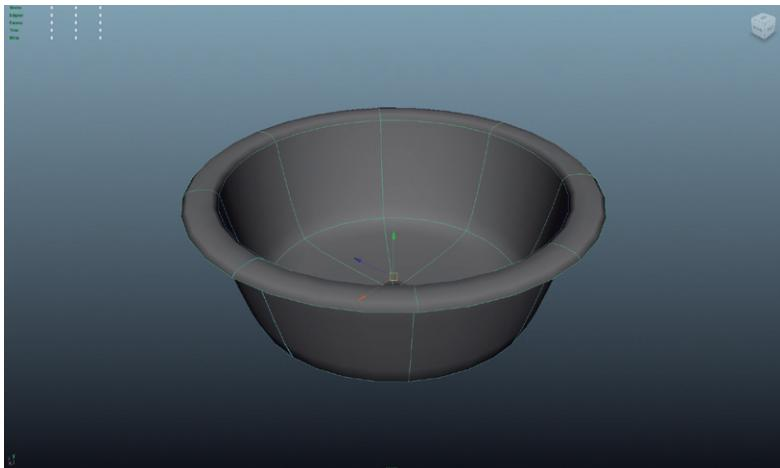

FIG 3.71 Results of a revolved curve.
Step 4: Create a revolved surface. Select the curve and choose Surfaces|Surfaces > Revolve. The default settings will yield a form like Fig. 3.71.